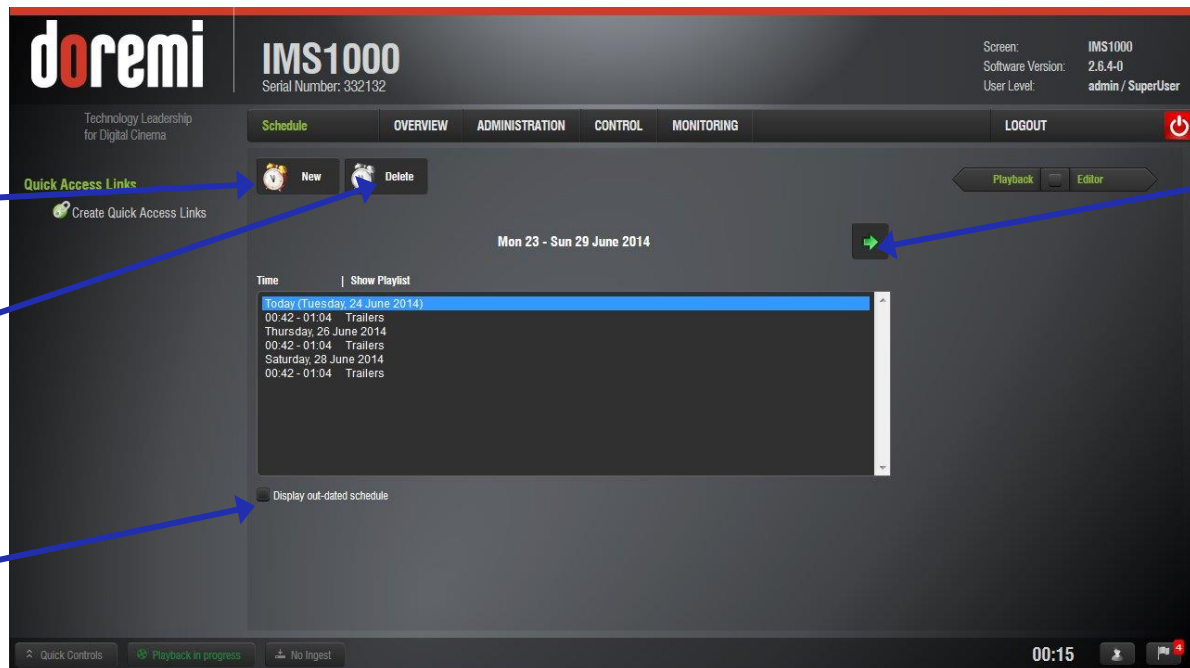

Figure 274: CineLister - Schedule Tab
The Schedule tab allows the user to schedule the playback of Show Playlist's on a certain day and time. The server will automatically begin the playback of the SPLs once they have been scheduled (Figure 274).
- Go to the Schedule tab from the CineLister GUI (Figure 274).
- To display another week, use the green arrow (Figure 274).
- Click the New button (Figure 274).
- To display outdated schedules, check the Out-Dated Schedule box (Figure 274).
- It will become highlighted, then click on the Delete button (Figure 274).